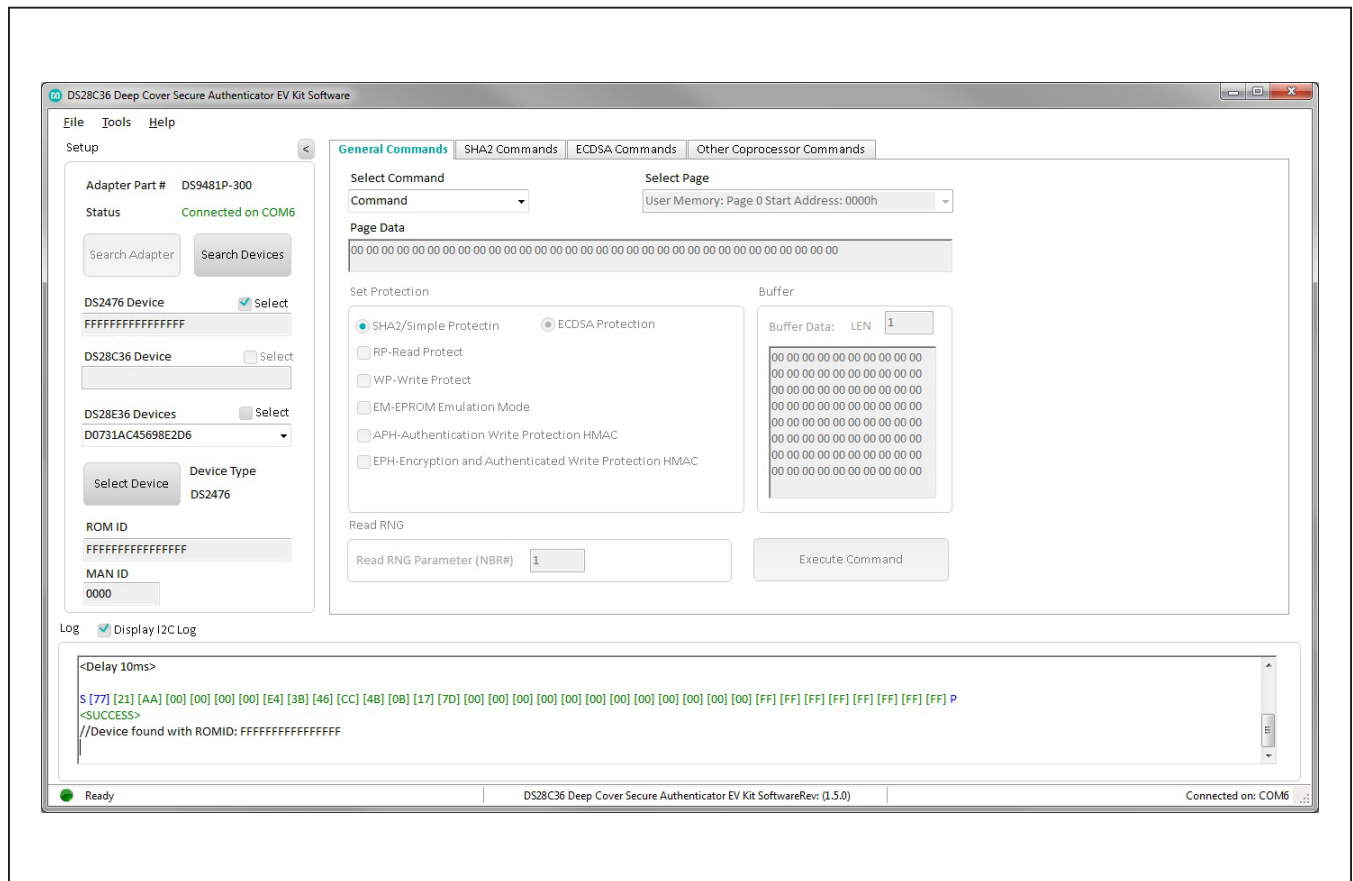

Figure 13. DS28C36 EVKIT Program (Default View Upon Opening)
- 12) The DS28C36 EVKIT program opens automatically (Figure 13), finding the COM port and the DS28C36/DS28E36/DS2476.
The DS28C36 evaluation program user interface (Figure 13) has four tabs, **General Commands**, **SHA2 Commands**, **ECDSA Commands**, and **Other Coprocessor Commands**. The **Setup** section is used to make the device selections that apply to the **General Commands**, **SHA2 Commands**, **ECDSA Commands**, and **Other Coprocessor Commands** tabs. Here is a summary of the function of each tab:
sections. This tutorial is also comparable to the *Application Example* section in the DS28E36 Security Guide that includes the Feature Authentication with ECDSA, but with the DS28E36 device selected instead. The start of this tutorial begins right after Figure 13.